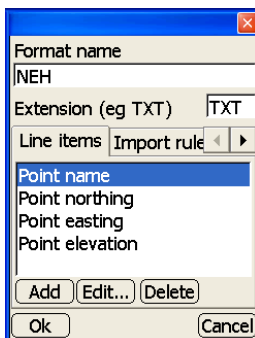

Figure 3-17. Line Items Tab
The Line Items tab on the *conversion format parameters* dialog box adds, edits, or deletes line items for the selected conversion format (Figure 3-17 on page 3-11).
- Edit – on the *Line items* tab, press **Edit** to edit the selected line item. See the “Add” bullet above and Figure 3-17 for details on editing the line item.
- Delete – on the *Line items* tab, press **Delete** to delete the selected line item. (Figure 3-17).